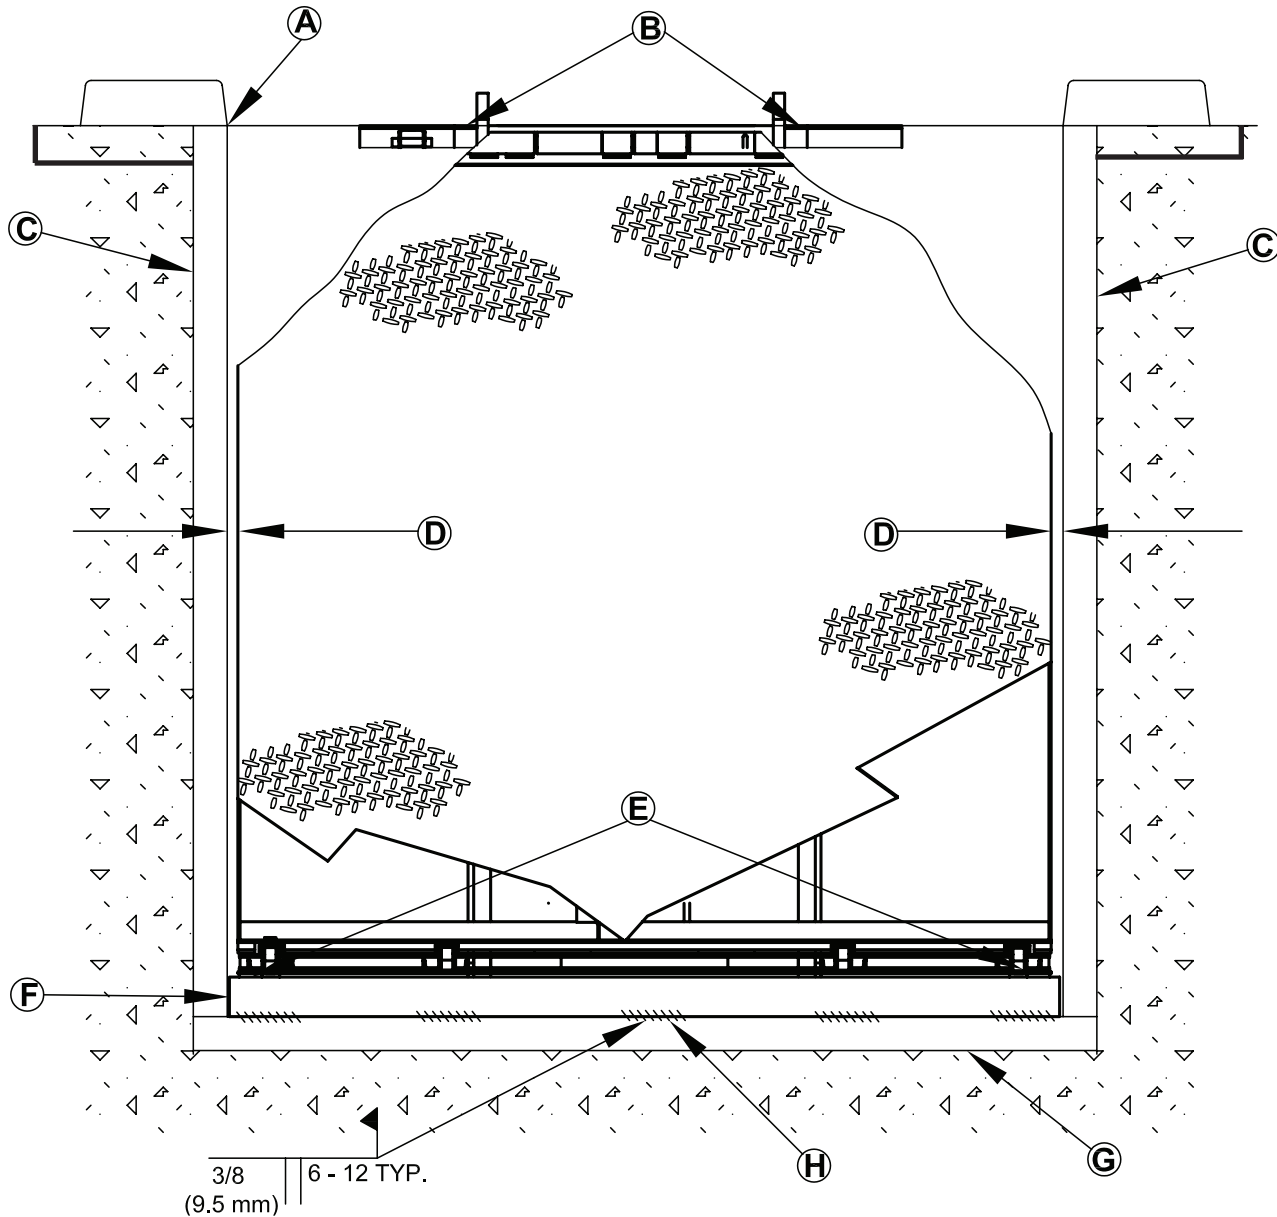
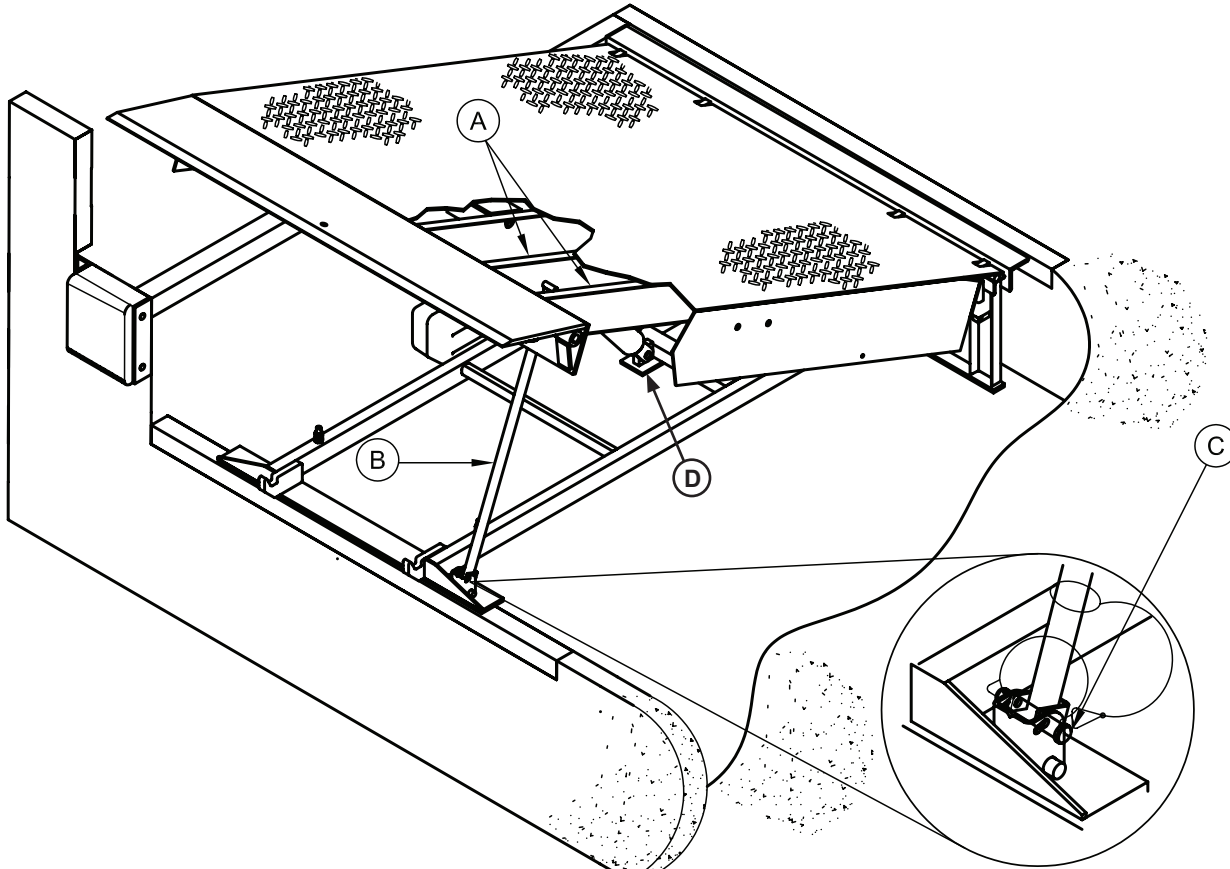

Figure 13
Figure 14
Note: Figure 13 shows a typical weld pattern. The weld pattern will vary slightly depending on size of dock leveler.
17. Shim and weld the maintenance prop (Figure 14):
- Install shims under maintenance prop (B) where prop attaches to leveler frame (C). Make sure prop is solidly shimmed.
- Raise maintenance prop (B) to the service (upright) position and lock prop in this position using an OSHA approved locking device.
18. Install shims at locations (C and D) using the pyramid or stepped shimming method (see Figure 13). Both platform cylinder trunnions must be solidly shimmed the entire length of the trunnion. Make sure the trunnions are level from side-to-side as well as from front-to-back.